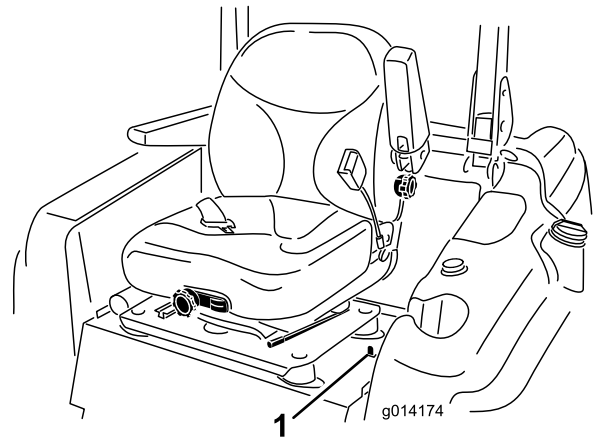

Figure 17
- Move the seat latch, located on the left side of the seat, rearward to unlatch the seat and pull forward on the top of the seat (Figure 17).